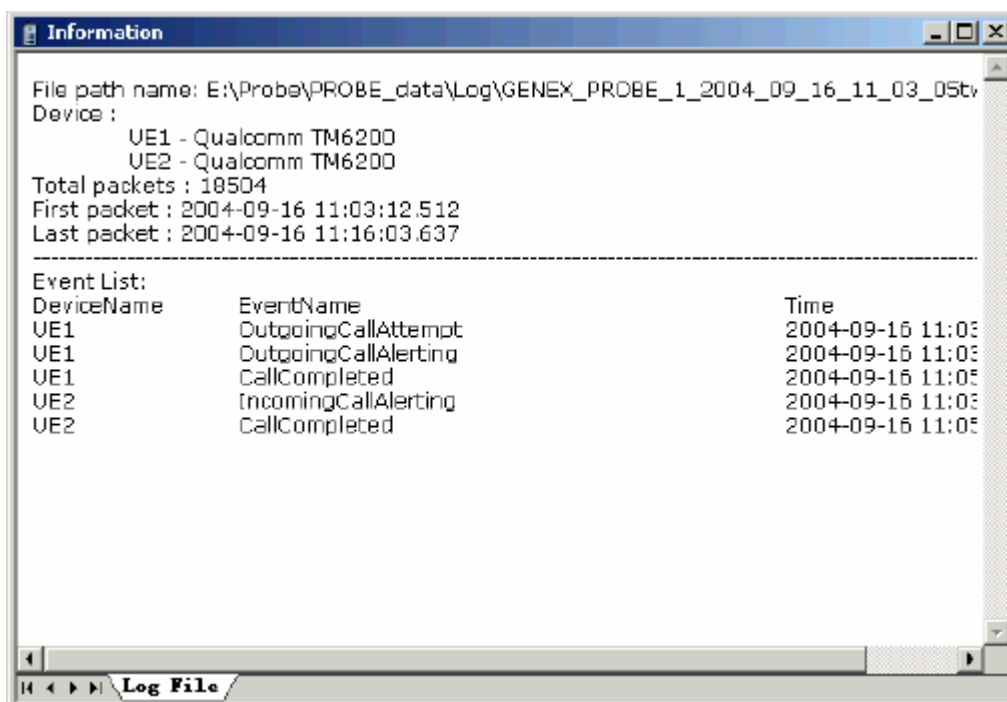

Figure 9-8 Preview information in the Log File tab
- 3) View the log file information in the **Log Files** tab of the **Information** window, as shown in Figure 9-8.